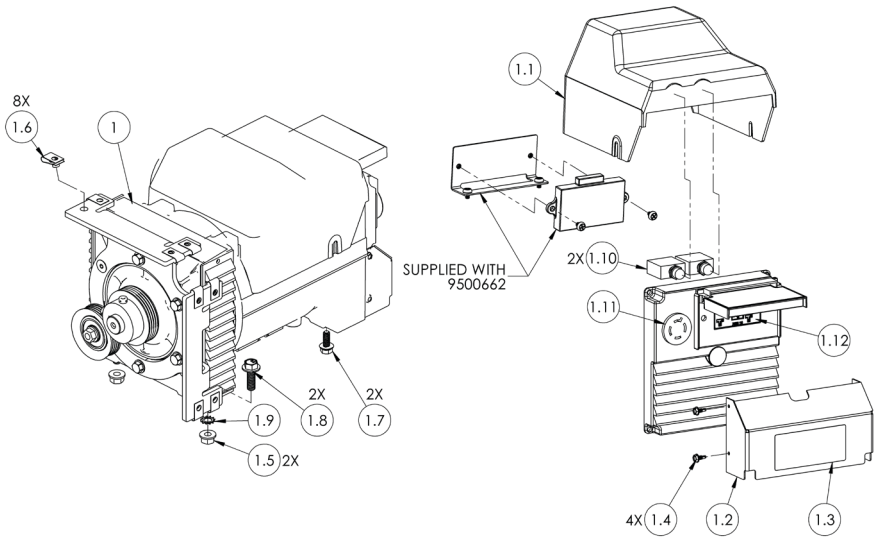

Figure 88 — Generator
2. Generator Assembly, 9500662 (Figure 88)